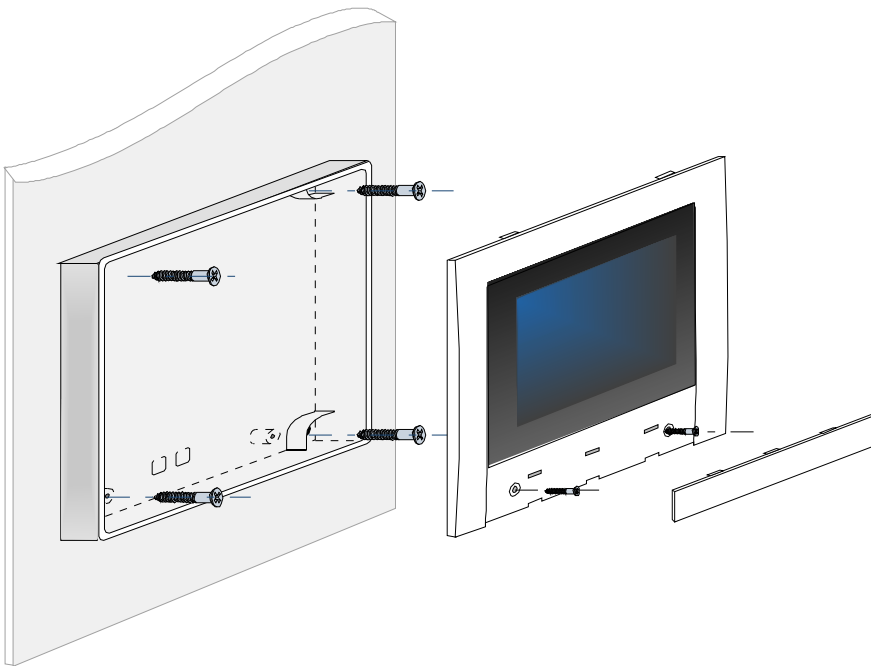

Fig. 5: Touch screen operating panel surface-mounted
- Close the housing as shown in Fig. 5.